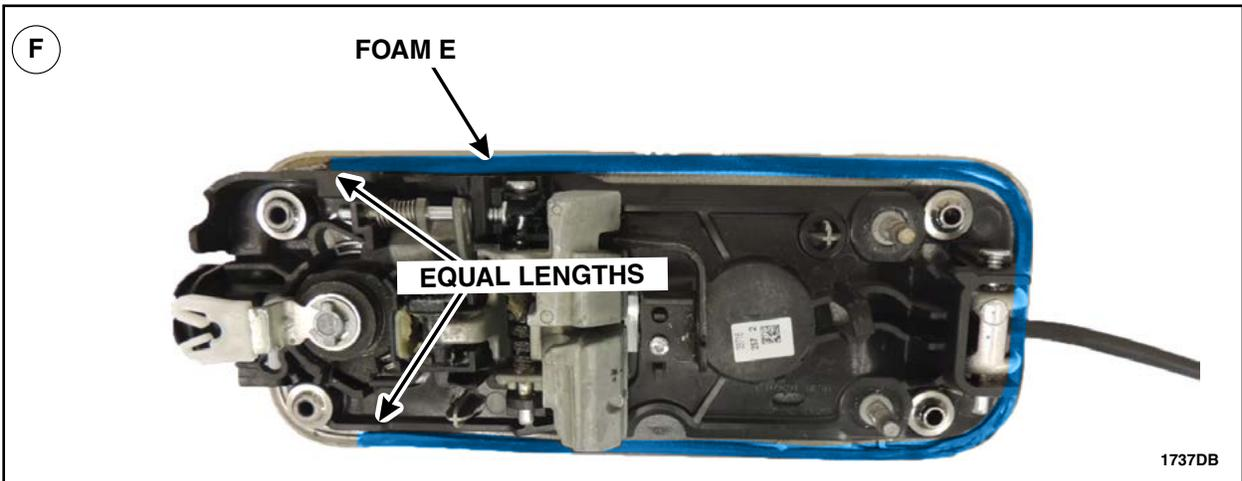

FIGURE 48
- F. Without stretching the foam adhere it to the exterior door handle ensuring that both sides of Foam E are of equal length once secured. See Figure 48.